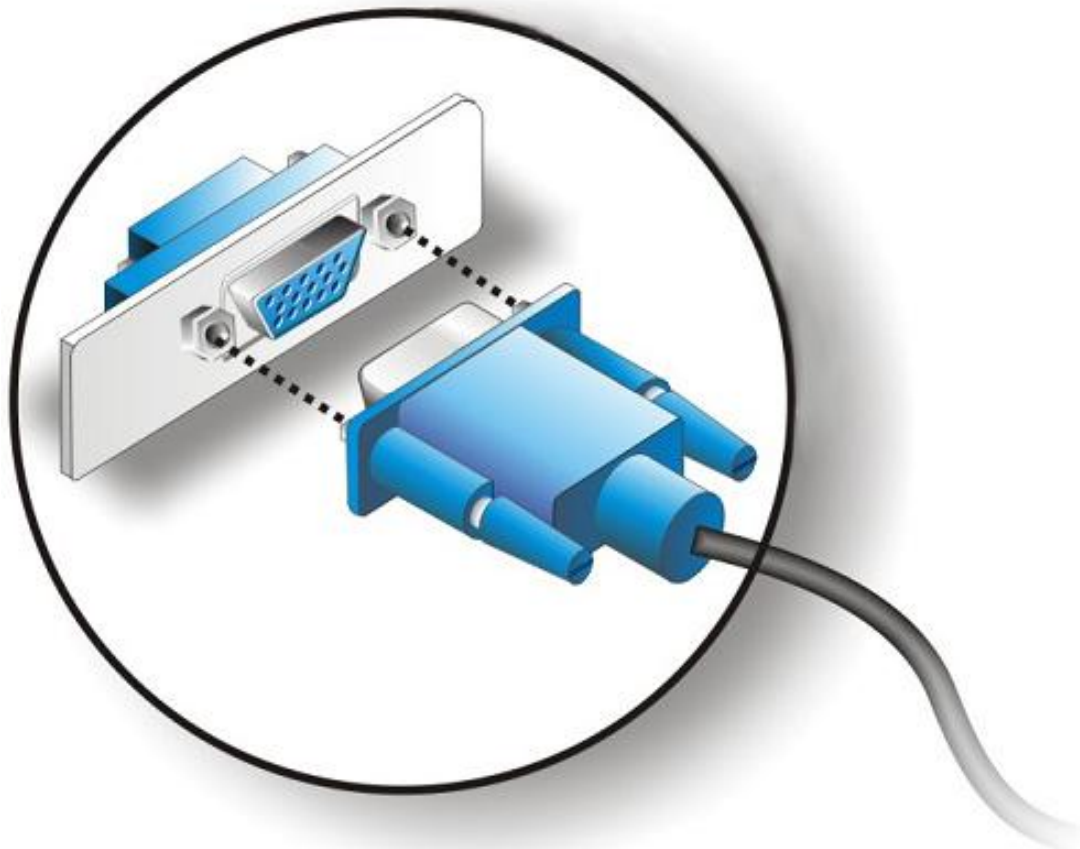

Figure 4-18: VGA Connector
Step 3: Insert the VGA connector Once the connectors are properly aligned with the insert the male connector from the VGA screen into the female connector on the AESQ67-967 Series. See **Figure 4-18**.